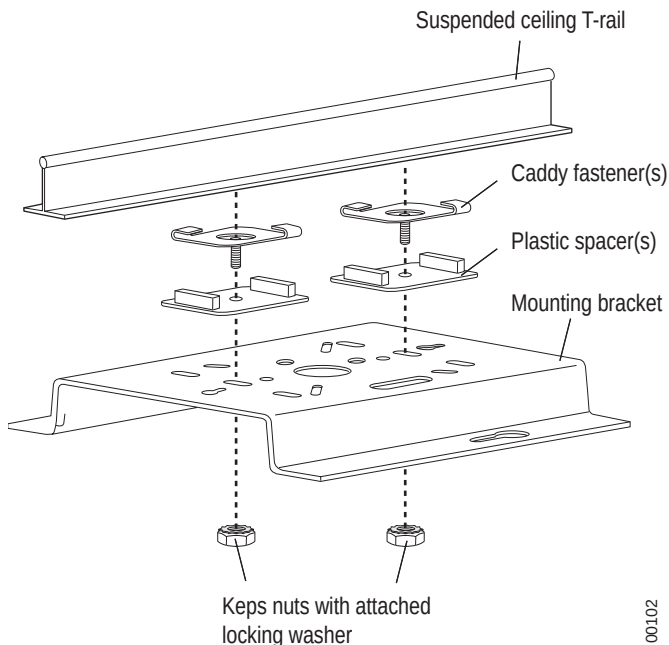

Figure 18: Mounting the AP200 to a Suspended Ceiling Rail
The optional suspended ceiling mounting kit allows the AP200 mounting bracket to attach to suspended ceiling T-rails (see **Figure 18**).
7. Adjust the height of the box hanger using the height adjusting screws (see Figure 18).